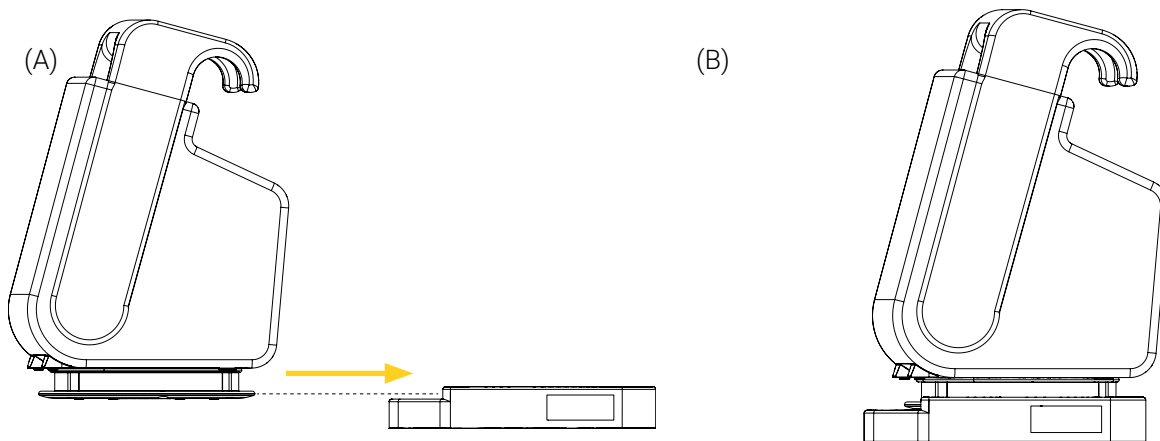

Figure 6: Installing the Bracket Pro Serie 25 WOB - FL in the Standard Surface Base
1. Align and insert the standard bottom disc horizontally in the Standard Surface Base (Figure 6), paying close attention not to wedge the tubing of the medical device.